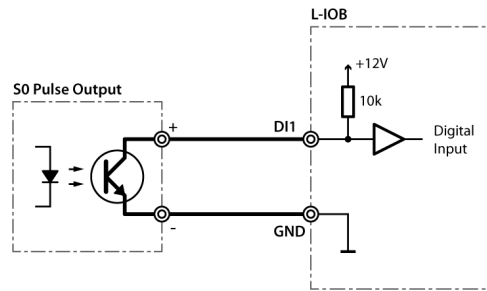

Figure 86: S0 pulse meter connected to DI
S0 pulse meters must be connected to digital inputs (DI) as shown in Figure 86.